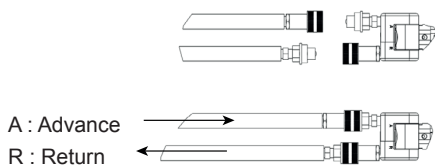

Figure 2 - Hydraulic Connections on Tool
- All hydraulic connections are rated for 700 Bar (10 000 psi). Connect the couplers on the hose, tool, and pump as shown in Figure 2.